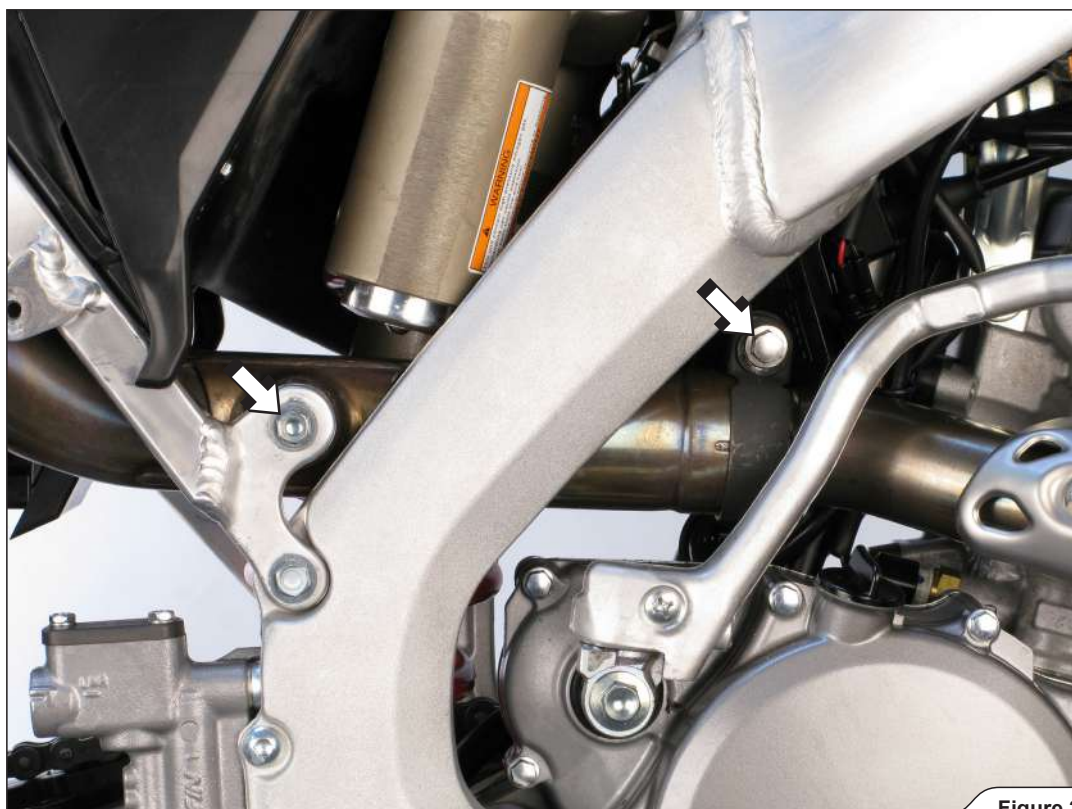

Figure 2
3. Loosen the marked clamp and unscrew the link pipe's bracket bolt (Figure 2).